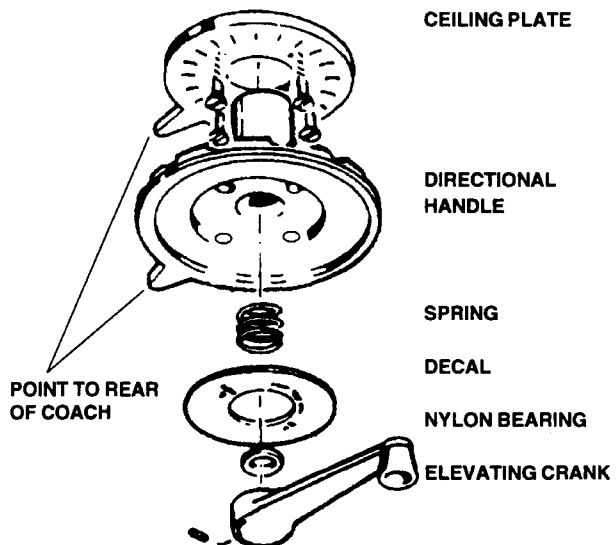

FIGURE 5
**STEP 8:** Lay ceiling plate on top of **directional handle** with pointers aligned and slide assembly over **rotating base shaft** in ceiling. Make pilot holes in ceiling. **Mount ceiling plate with directional handle in place** with screws provided. See Figure 5.
**STEP 9:** Assemble directional handle, spring, nylon bearing, directional handle decal and elevating crank as shown in exploded view in Figure 5. Remove backing from crank cover decal and press firmly inside directional handle. Slide all parts over elevating shaft and install elevating crank so set screw is on one of the six flat sides of elevating shaft before tightening screw.